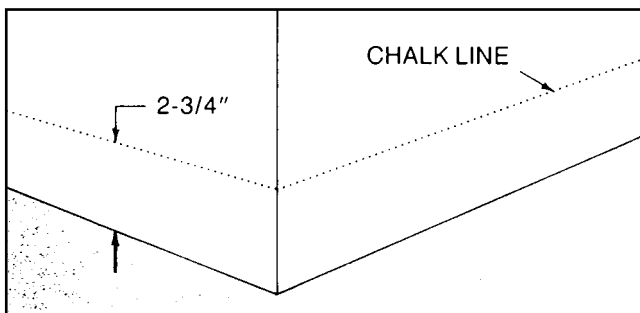

Fig 5.1
**1. CHALK LINE** It is best to establish a level chalk line in relation to the eaves or the tops and bottoms of doors and windows. First, find the lowest corner on the building area to be sided where a level line can be drawn (uninterrupted) around the perimeter. Measure up 2-3/4" and snap a level chalk line around the house (Fig. 5.1).